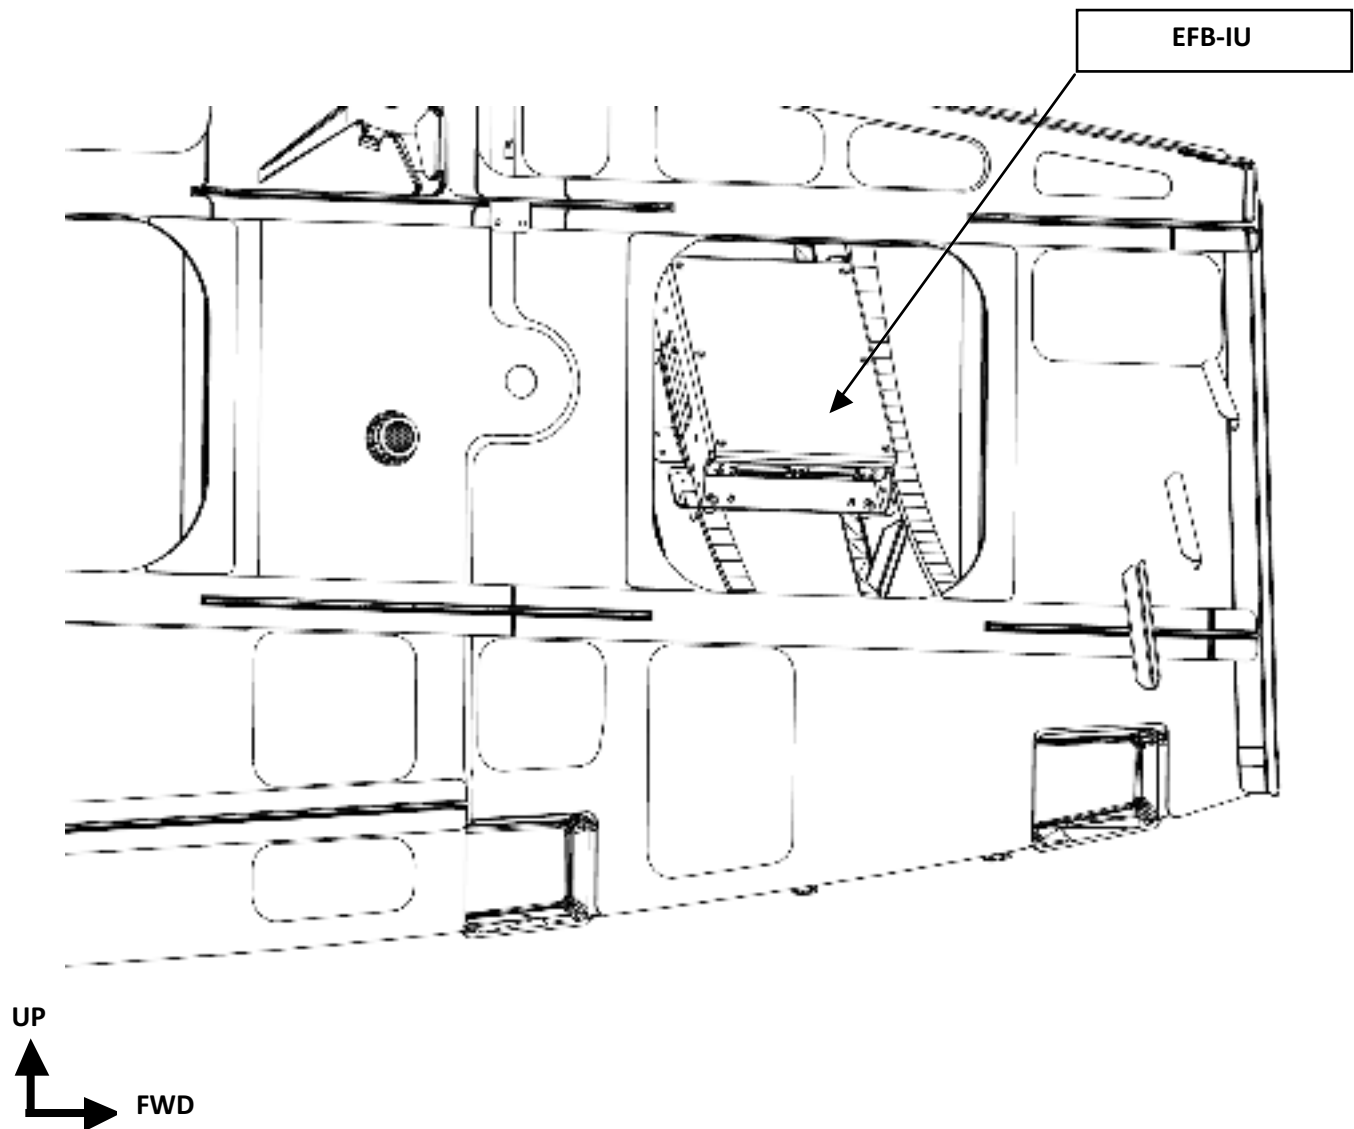

FIGURE 4: EFB-IU INSTALLATION
- » An EFB-IU mounting assembly is installed to the aircraft frames located behind the forward most, captain's side access panel of the nose wheel well. The view in Figure 4 is looking outboard through the forward access panel in the nose wheel well landing gear.